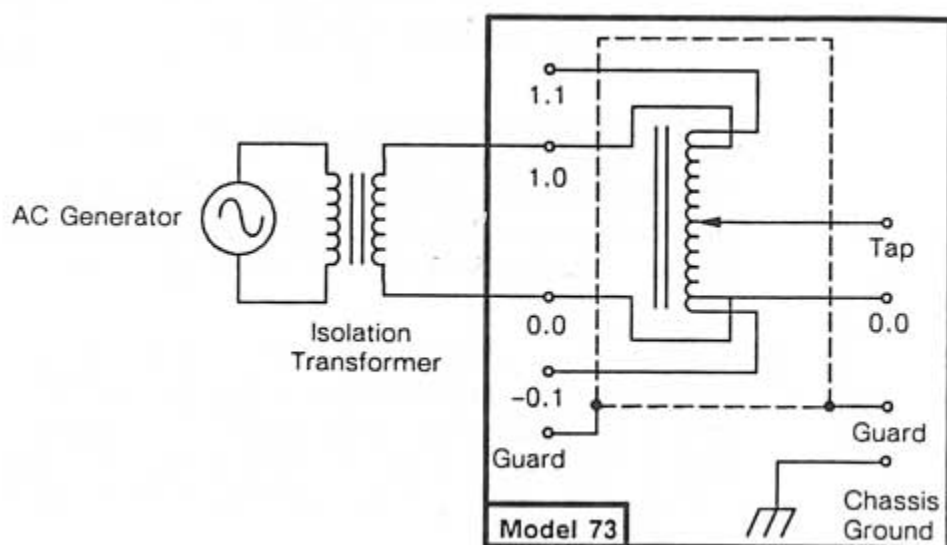

Figure 8-1. Test Equipment Connections for Transformer Demagnetization
1. Setup the test equipment as shown in Figure 8-1.